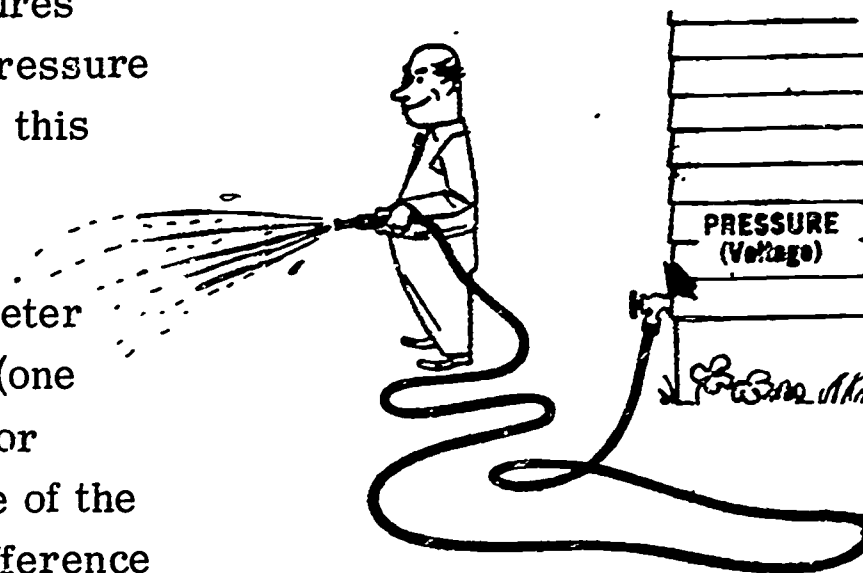

Fig. 1 Pressure (voltage)
**THE VOLTMETER** -- Voltage is the force or electrical pressure in a circuit. It is similar to the water pressure in a hose (as shown in Figure 1). The instrument used to measure the electrical pressure is called a voltmeter, and measurement is given in units called volts.